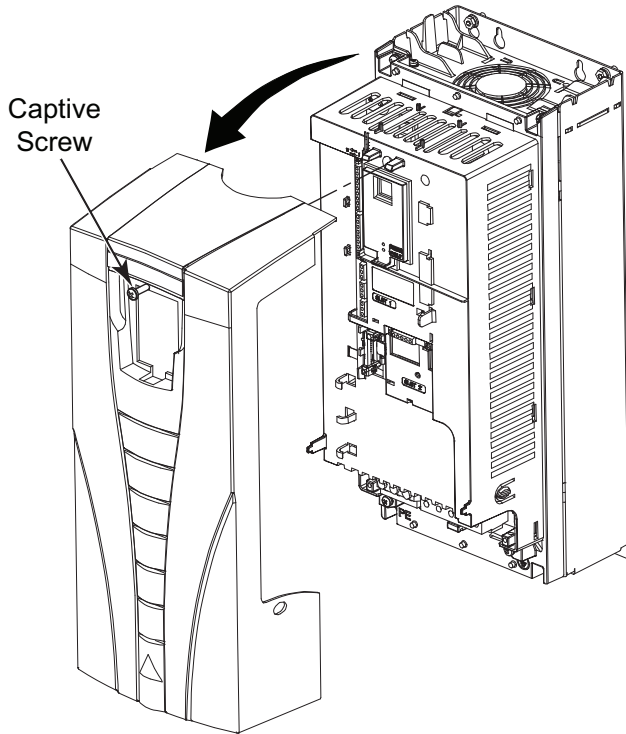

Fig. 38 — Remove AHC550 VFD Front Cover
2. Remove the drive cover (see Fig. 38).